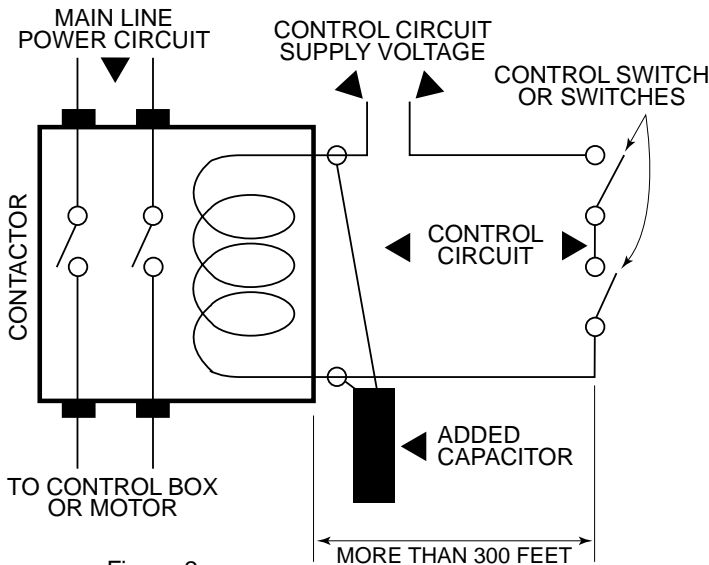

Figure 2
(Figure 2). The capacitor should be a continuous duty, AC capacitor, like the gray or silver run capacitors used in Franklin’s larger control boxes. **Note: Run capacitors are available in both plastic and metal cases. If metal cased capacitors are used, they must be grounded.** Recommended ratings are shown in Figure 3. The contactor Franklin uses typically has four (4) quick-connect terminals located on the contactor’s coil. Two are used to supply power to the coil and two are not used. Connect the new run capacitor to the two empty terminals. Connecting a run capacitor to the coil terminals normally assures drop-out and safe coil voltages with all cable lengths and contactor models. **Note: this run capacitor is an additional capacitor. You can not use an existing control box run capacitor for both the motor power circuit and the control circuit. Run capacitors are typically found inside Franklin’s 1 1/2 through 15 Hp single-phase control boxes.**